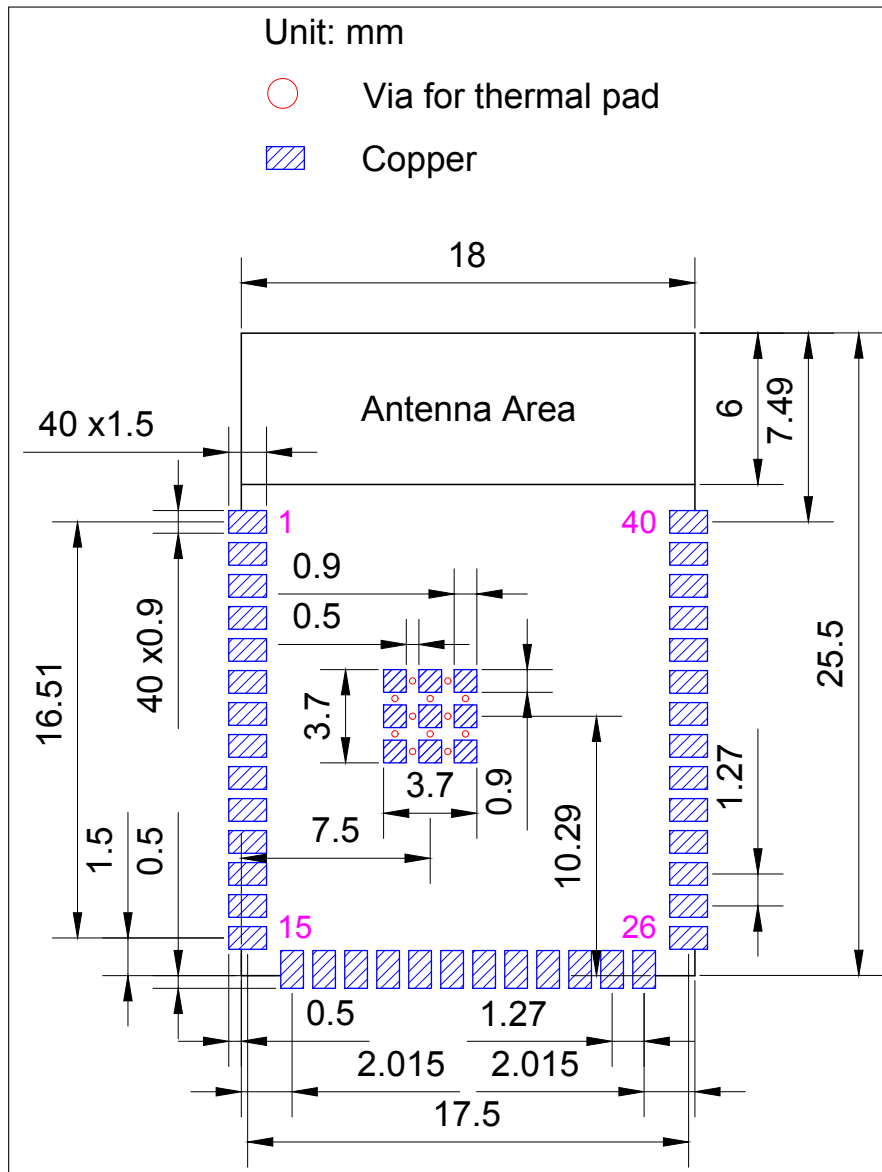
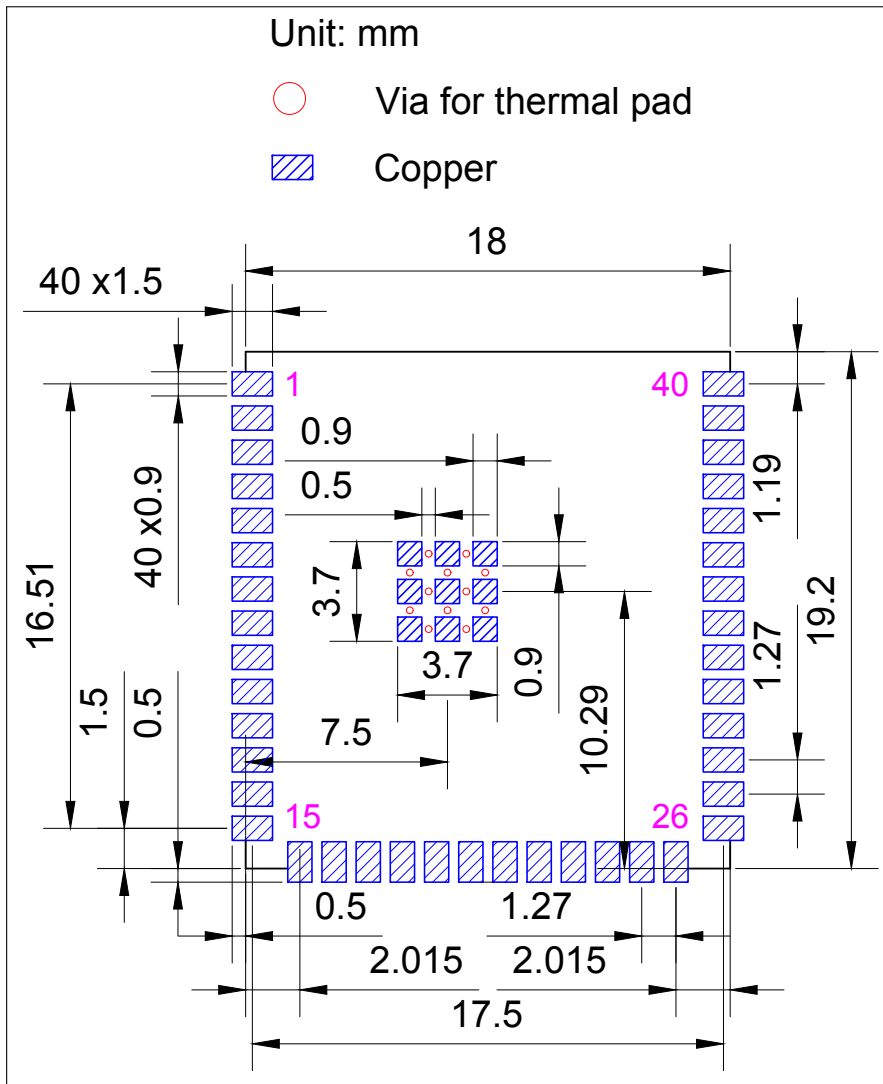

Figure 9: ESP32-S2-SOLO Recommended PCB Land Pattern
Figure 10: ESP32-S2-SOLO-U Recommended PCB Land Pattern
- Figures for recommended PCB land patterns with all the dimensions needed for PCB design. See Figure 9 *ESP32-S2-SOLO Recommended PCB Land Pattern* and Figure 10 *ESP32-S2-SOLO-U Recommended PCB Land Pattern*.
- Source files of recommended PCB land patterns to measure dimensions not covered in Figure 9. You can view the source files for ESP32-S2-SOLO and ESP32-S2-SOLO-U with Autodesk Viewer.